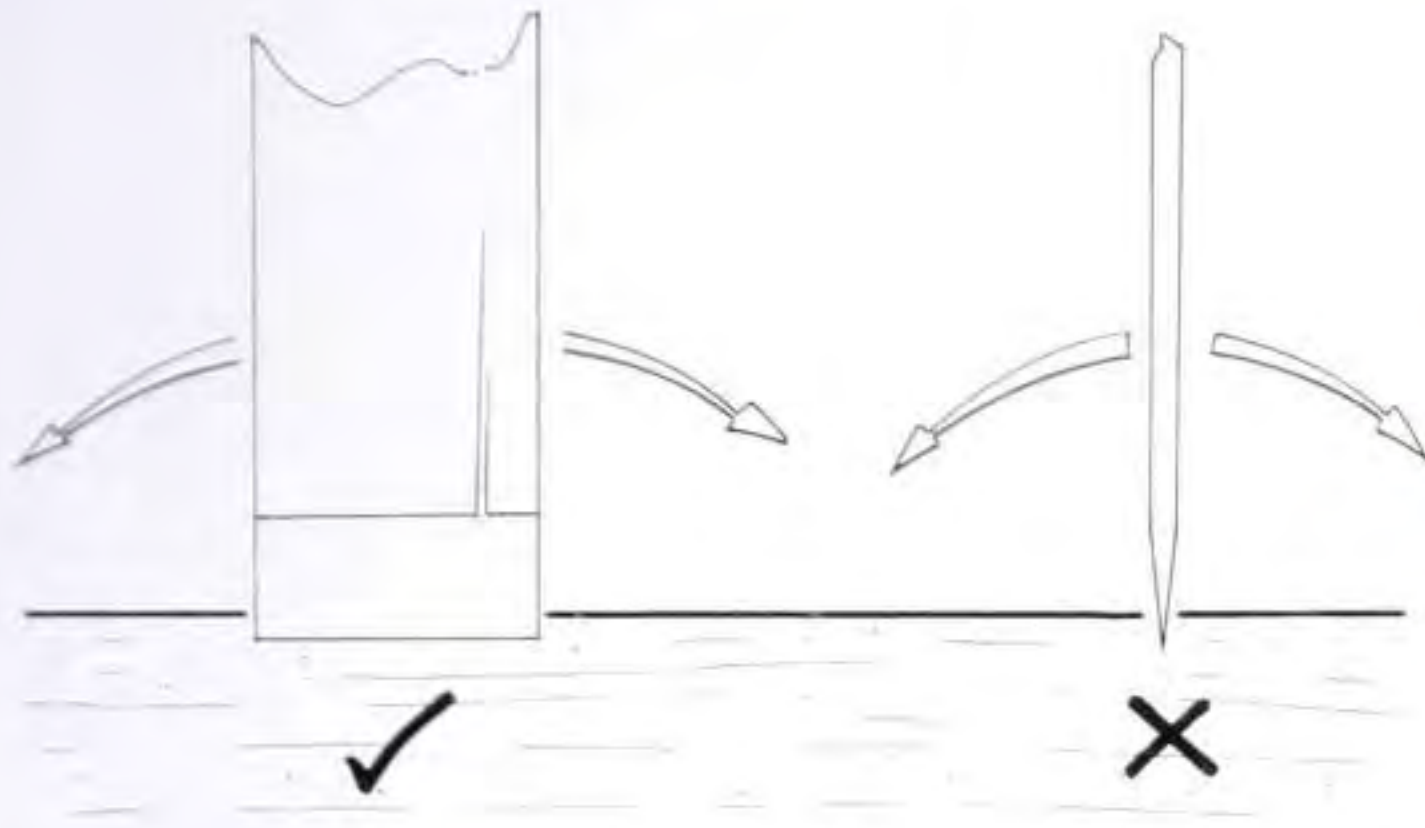

Fig 5.5 If you rock an embedded tool across its edge there is a real possibility of snapping it. Always lever the handle across the width of the chisel.
- 9 Remove the embedded chisel by levering the handle back and forth *across the width*. Never rock an embedded chisel edge from side to side, as this may snap off some of the edge (see Fig 5.5).